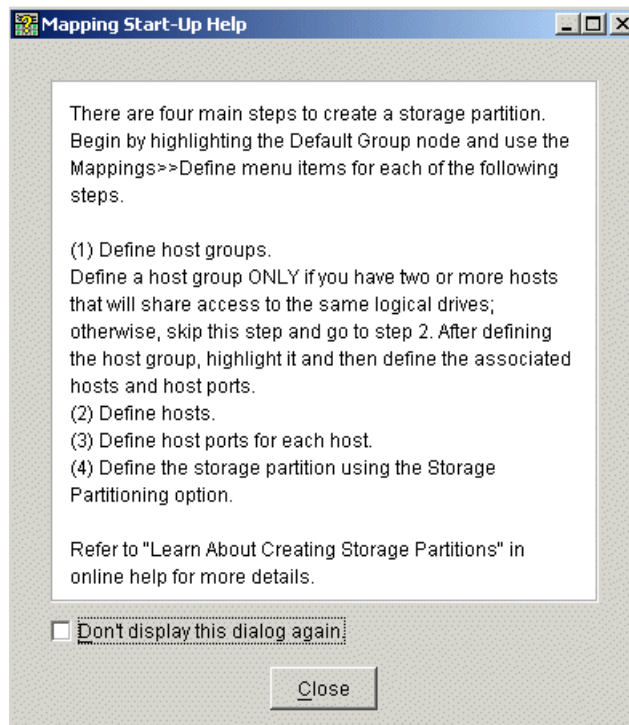

Figure 5-32 Mapping Start Up Help
1. Choose the **Mappings View** in the Subsystem Management window. You are presented with the following information box when you first enter storage partitioning (Figure 5-32).